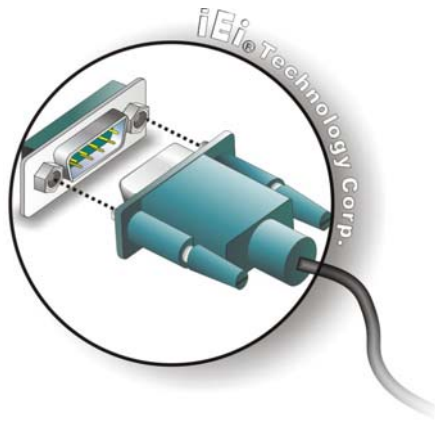

Figure 2-31: Serial Device Connector
Step 2: **Insert the serial connector.** Insert the DB-9 connector of a serial device into the DB-9 connector on the bottom panel. See Figure 2-31.